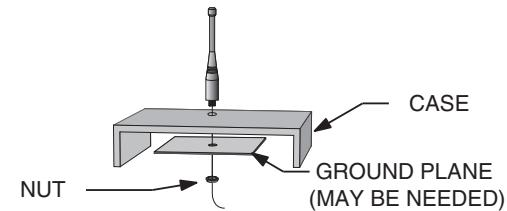

Figure 60: Remote Ground Plane
6. In some applications, it is advantageous to place the module and antenna away from the main equipment (Figure 60). This can avoid interference problems and allows the antenna to be oriented for optimum performance. Always use  $50\Omega$  coax, like RG-174, for the remote feed.